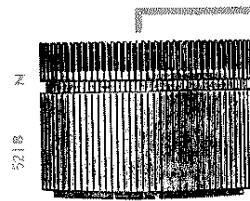

Fig. 6
The cylinder (Fig. 6) which fits inside the cam shell and is secured to the base by two screws (521C), has grooves cut in it all the way round, in which the needles work; they are held in position by a belt (515A) which fits in the groove (Z) running round the cylinder.